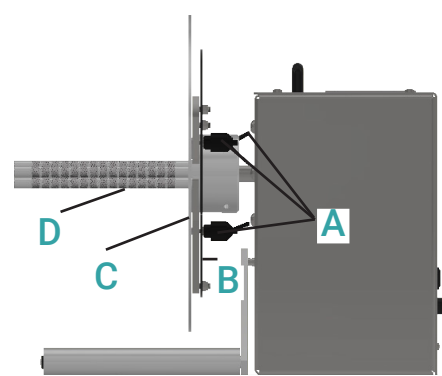

FIG. 9
- ACH (FIG.9): Slide the Hub of the ACH over the motor Shaft of the UNI-CAT. Position the Hub so there is a gap between the ACH Hub and the Rewinder Drive Unit case. Tighten the Allen Screw onto the flat part of the Motor Shaft until it is tight.
USING THE ACH (FIG.9)